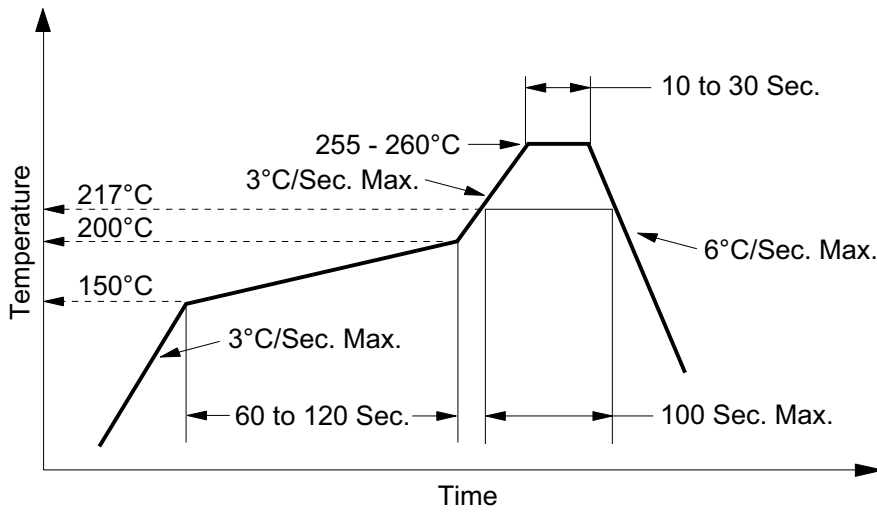

Figure 14: Recommended Soldering Pad Pattern
- Lead polarity as shown in Figure 14.